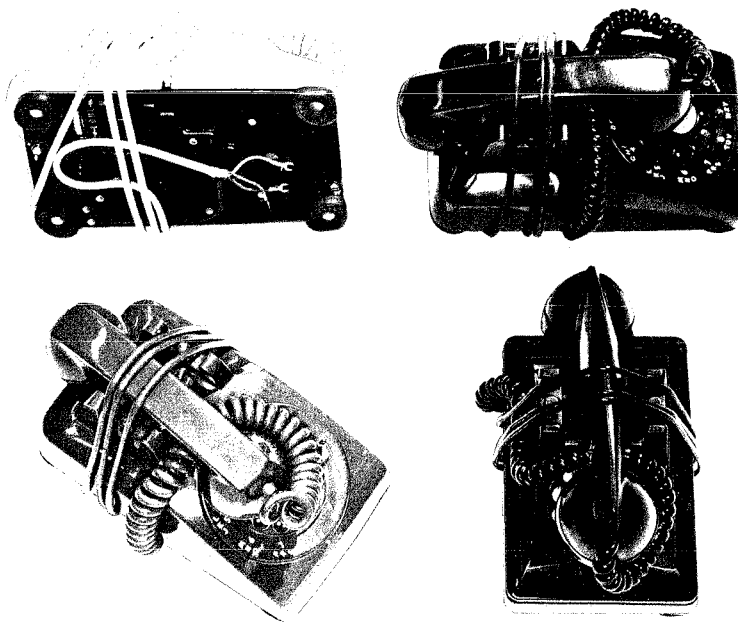
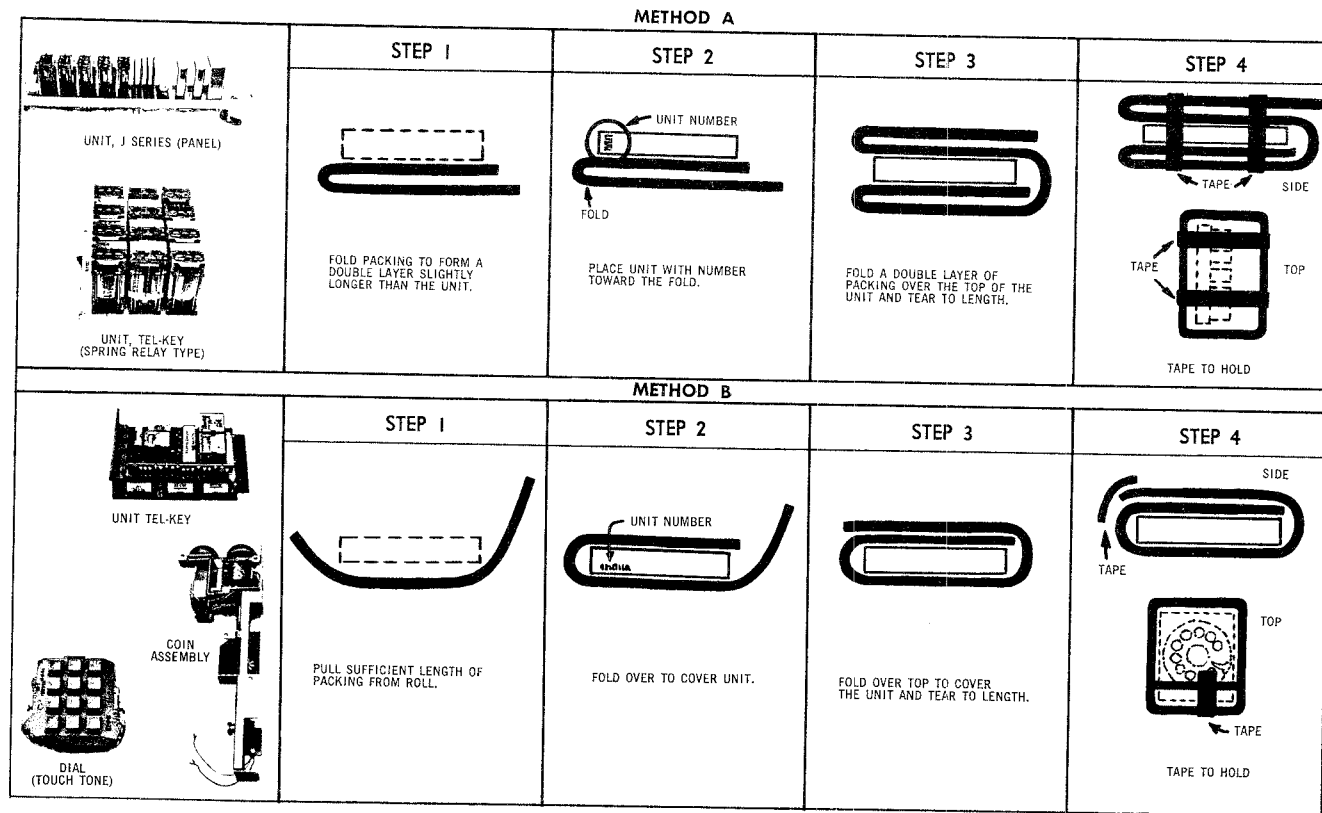

Fig. 1 — Desk Set Prepared for Packing
Fig. 6 — Procedures to be Used When Packing with Packing Resistant Shock
- 1.03** This section is reissued to replace Shock Resistant Wadding with Packing Resistant Shock and add Fig. 6.
- (3) **Distributing Frame Wire** - Wire in lengths of 10 feet or less, shall be baled or bagged, all types combined, and returned as junk. A scrap wire paper bag is obtainable on requisition for this purpose.
- (4) **Drop Wire** -
- (5) **Inside Wiring Cable and Connector Cables** - These cables should be tagged and coiled as to size and length.
- (6) **Installer's and B Repairman's Cases** - The combination locks on these cases shall be reset at "000" before returning.
- (7) **Keys, Handsets, Subsets, Speakerphones** - Components and similar apparatus items shall be returned in individual No. 1 Polyethylene Bags to protect the finish. If better protection is required, a standard telephone carton shall also be used.
- (8) **Key Telephone Units** - When practical, the units shall be returned, assembled in the 105 Apparatus Box or Equipment Cabinet in which they were installed. When the units are loose, maximum protection shall be given by the use of Packing Kits or *if the kits are unavailable, by cushioning with Packing Resistant Shock and crumpled paper in suitable cartons or containers. See Fig. 6.*
- (9) **PBX Battery Units and Used Storage Batteries** - The acid solution shall not be emptied from these batteries before shipping. Recovered batteries shall be returned in special battery cases. Where possible, storage batteries may be disposed of locally; however, this shall be done by Supplies personnel only.
- (10) **Radiotelephone Equipment** - This equipment shall be carefully packed, using Packing Resistant Shock. See Fig. 6.
- (11) **Sharp Tools** - and other hazardous items shall be protected with guards or other suitable protection.
- (12) **Small Parts** - Dials, ringers, transmitter or receiver units, and similar replacement parts, shall, when possible, be returned in the carton in which the new parts were received.
- (13) **Switchboards, Teletypewriters and Teletypewriter Tables** - Whenever possible this equipment should be packed in the appropriate packing case which is available upon request, before it is removed from the customer's premises. However, if the carter (either company operated or contractor) is able to supply adequate protection (quilted blankets, etc.) it will not be necessary to pack switchboards (other than the 507 Type). The ribbon and inking devices shall be removed from teletypewriters before packing.
- (14) **Telephone Sets** - are to be secured as shown in Fig. 1 to 5.